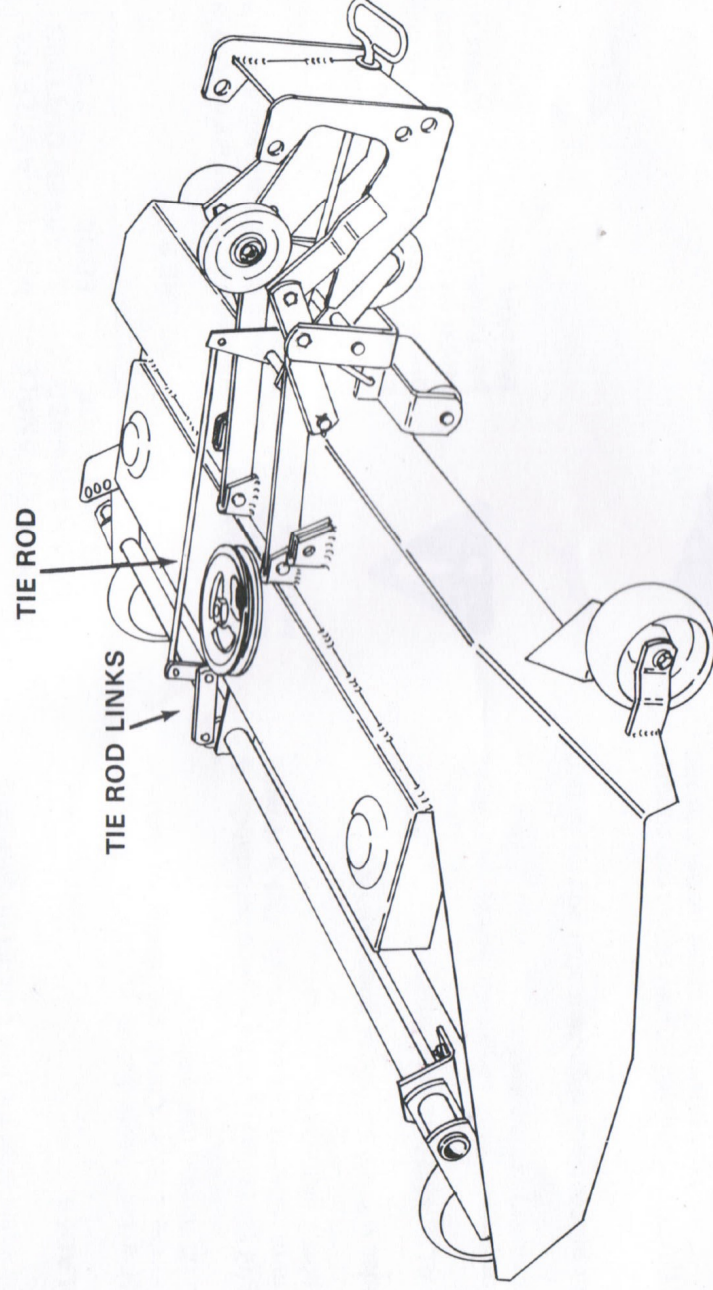

FIGURE 11 Mower - Assembled
2. Do not assemble the mounting bracket to the lawn mower deck as shown in Figure 11. It is easier to first position the deck under the tractor, then install the mounting bracket.
3. Assemble the 3 tie rod links to the tab on the gauge wheel axle as shown in Figure 11.